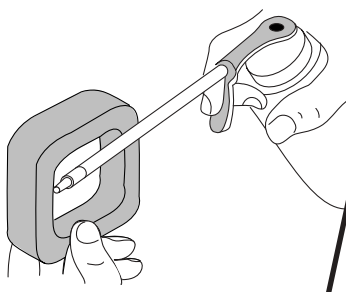

Fig. 10
5. Apply enough clean SAE 30 motor oil to lightly coat the filter (Fig. 10).